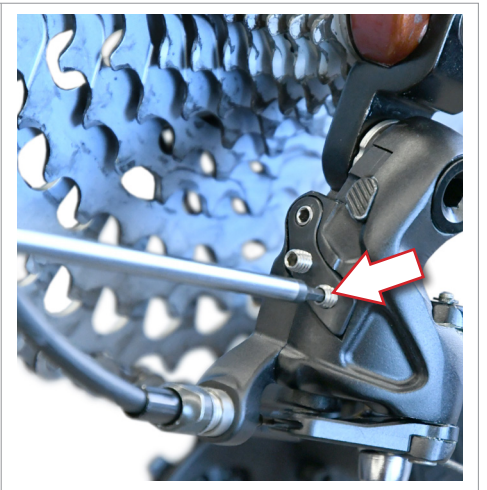

Fig.23
- Check that when the shifter is actuated accordingly, the rear derailleur positions the chain on the largest sprocket; if this does not occur, turn the screw (**Fig. 23**) repeatedly (slackening it until the chain is positioned on the largest sprocket without overshifting).